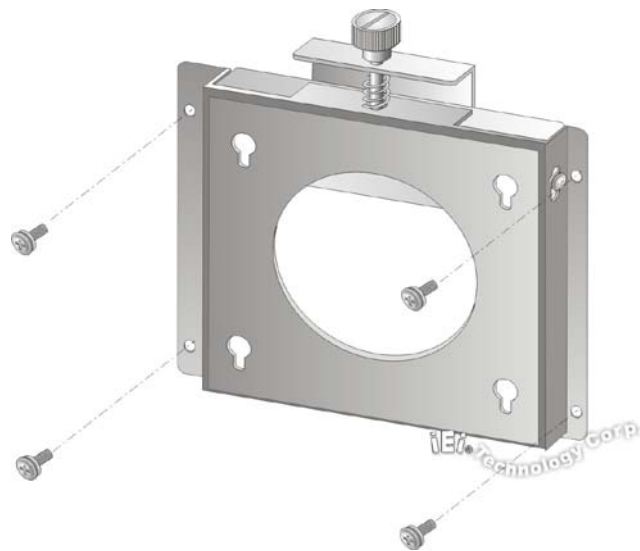

Figure 3-5: Wall-mounting Bracket
- Step 5:** Secure the mounting-bracket to the wall by inserting the retention screws into the four pilot holes and tightening them (Figure 3-5).